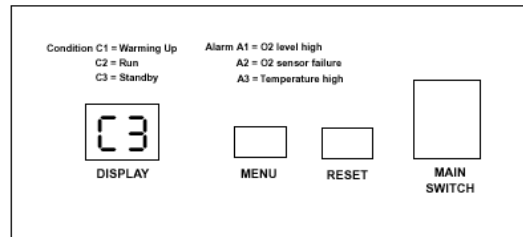

Figure 7. Control Panel Standby Mode
5. When the pressure setpoint is reached, the unit will shut down and C3 will be shown in the panel display (figure 7).